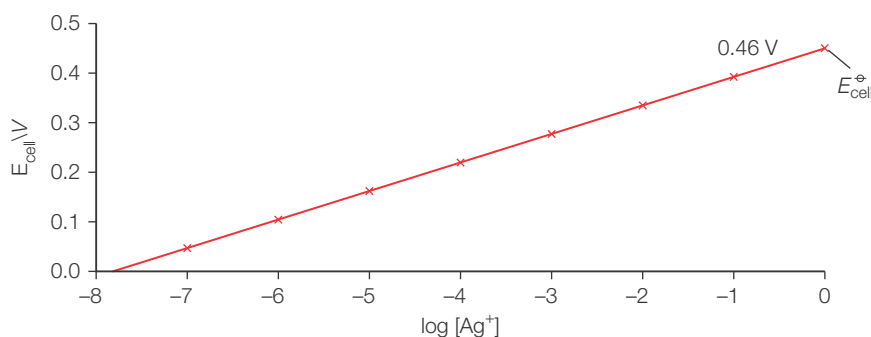

Figure 24.50 The effect of concentration and temperature on the value of the cell potential can be deduced using the Nernst equation
Figure 24.50 shows a linear relationship between the cell voltage and the logarithm of the silver(I) ion concentration (at a constant temperature of 298 K).